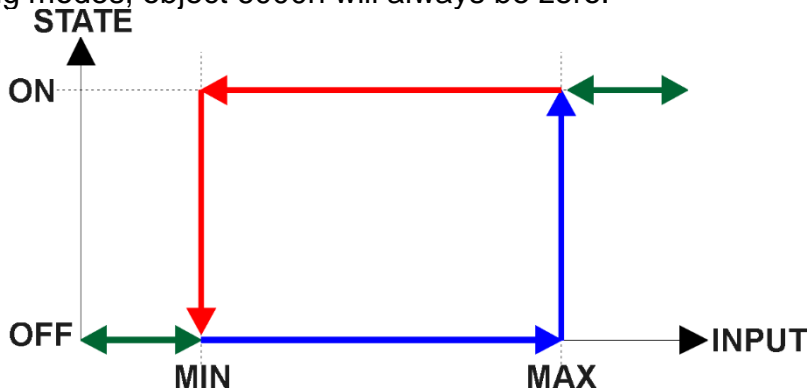

Figure 5 – Analog Input Read as Digital
objects from the Analog Input (AI) block are applied instead of those discussed above. Here, objects 2020h, and 2030h are ignored, and 6000h is written as per the logic shown in Figure 5. In this case, the MIN parameter is set by object 7120h **AI Scaling 1 FV**, and the MAX is set by 7122h **AI Scaling 2 FV**.